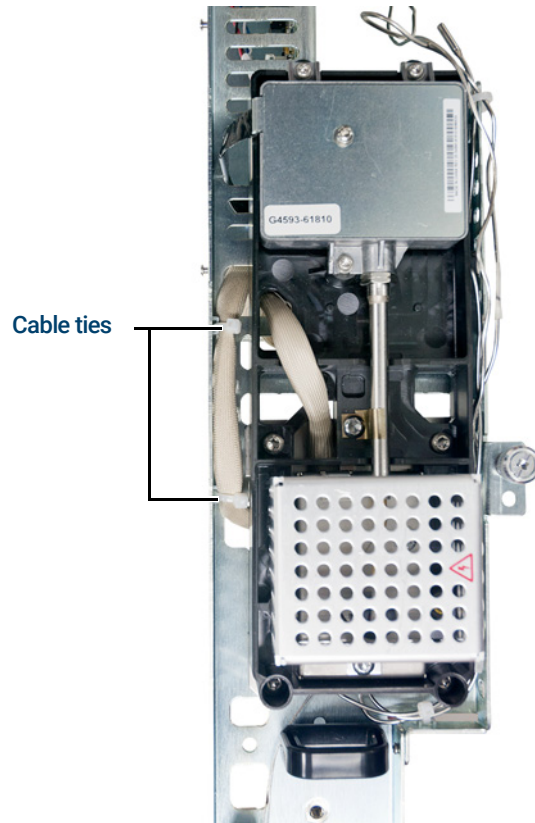

Figure 20. TAIL heater cable ties
- 26** Cut the two cable ties securing the TAIL heater cable to the detector module assembly. See **Figure 20**.